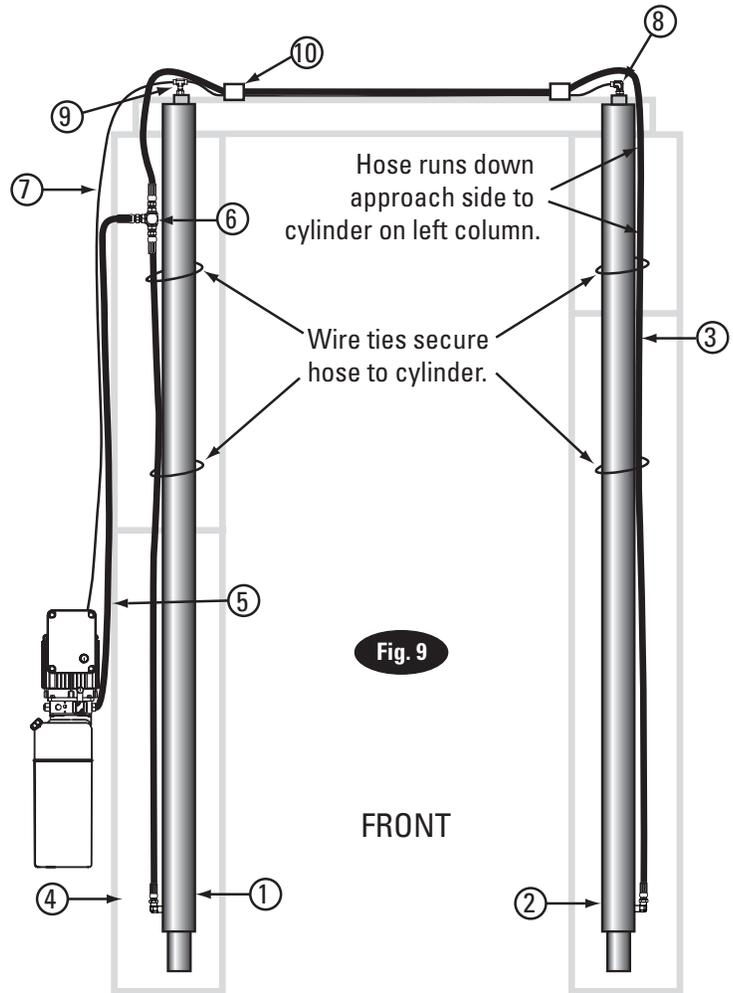

Fig. 9
9. Hoses: Clean adapters and hose. Inspect all threads for damage and hose ends to be sure they are crimped, Fig. 9.
7. Run return line from elbow Pc. (8) to tee Pc. (9). The return line then runs outside of column down and connects to the power unit, Fig. 9.
IMPORTANT Using wire ties provided, tie off hydraulic hose snug to cylinders to keep hose away from equalizing cable, Fig. 9.
16. Oil Filling & Bleeding: Use Dexron III ATF, or Hydraulic Fluid that meets ISO 32 specifications. Remove fill-breather cap, Fig. 8a. Pour in (8) quarts of fluid. Start unit, raise lift about 2 ft. Open cylinder bleeders approx. 2 turns, Fig. 9.